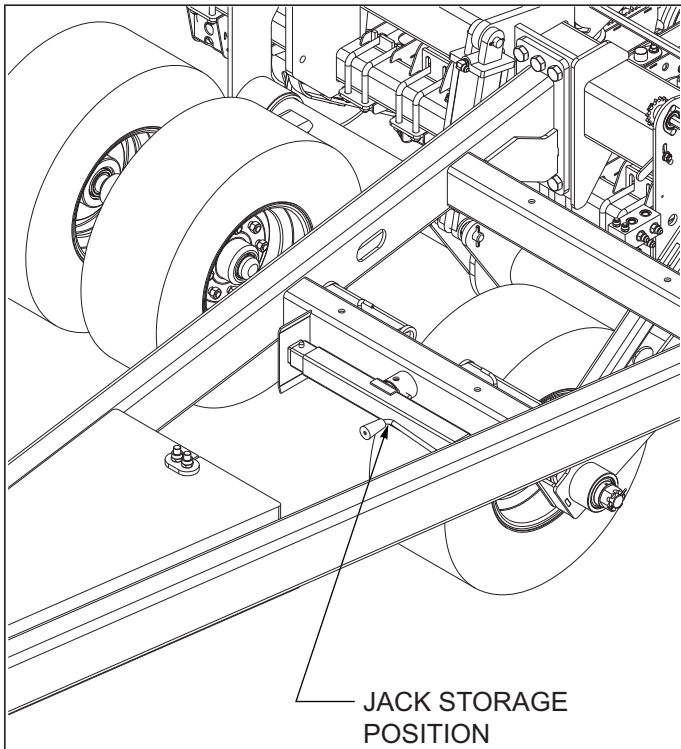
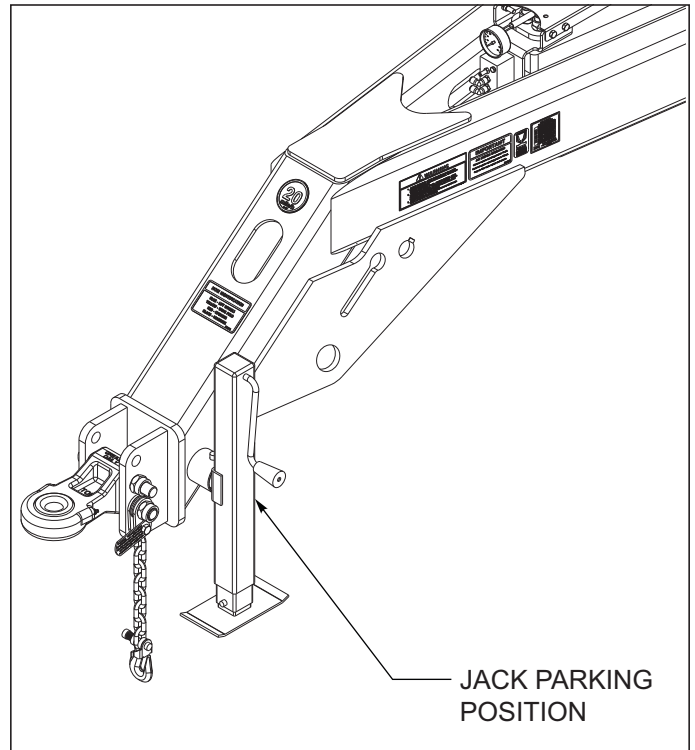

Figure 5-5: Jack Storage Position
Figure 5-6: Jack Parking Position
e. Remove the jack from the storage position *See Figure 5-5* and install the jack in the storage position *See Figure 5-6*. If storing on soft ground, place board/plate under the jack for a wider foot print..